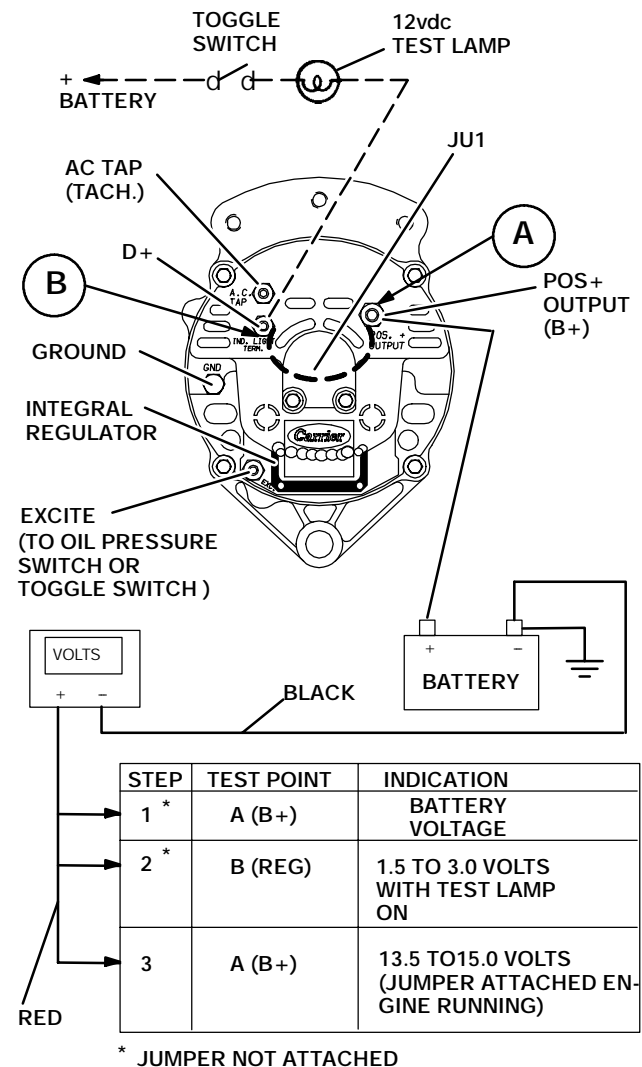

Figure 4-8. Open Diode-Trio Test
- With jumper not attached. Check for battery voltage at terminal A and for 1.5 to 3.0 volts at terminal B, see Figure 4-8.